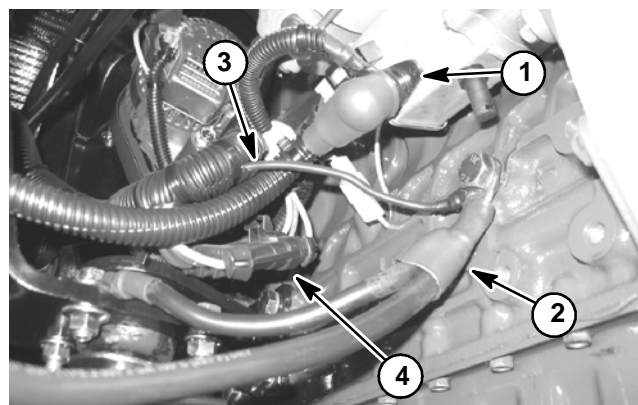

Figure 11
A. Remove positive battery cable, cable to accessory solenoid and fusible link connector from electric starter motor solenoid stud (Fig. 11). Remove cable tie that secures fusible link connector to starter.
C. Remove cap screw and lock washer that secure negative battery cable and wire harness ground wire to engine (Fig. 11).